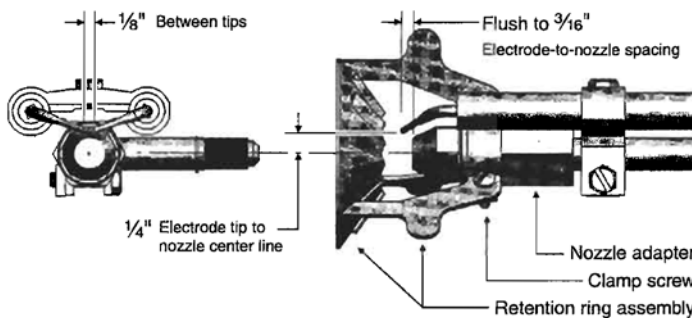

Figure 27C: Combustion Head / Nozzle / Electrode Settings (Carlin 102CRD)
- b. If the fire is a little too rich, move the combustion head slightly forward by increasing dimension "A". Refer to Figure 27C.